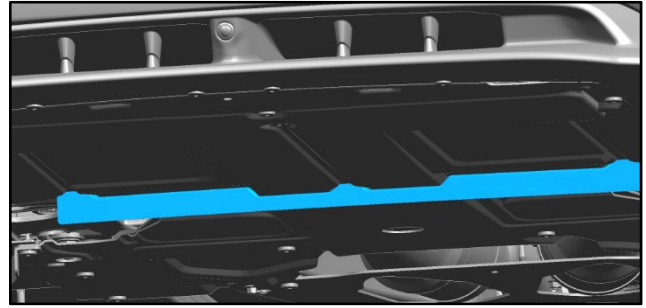

Figure 20 (40mm height)
- If the air dam is the same as Figure 20 it must be replaced. Do steps 22 thru 25.